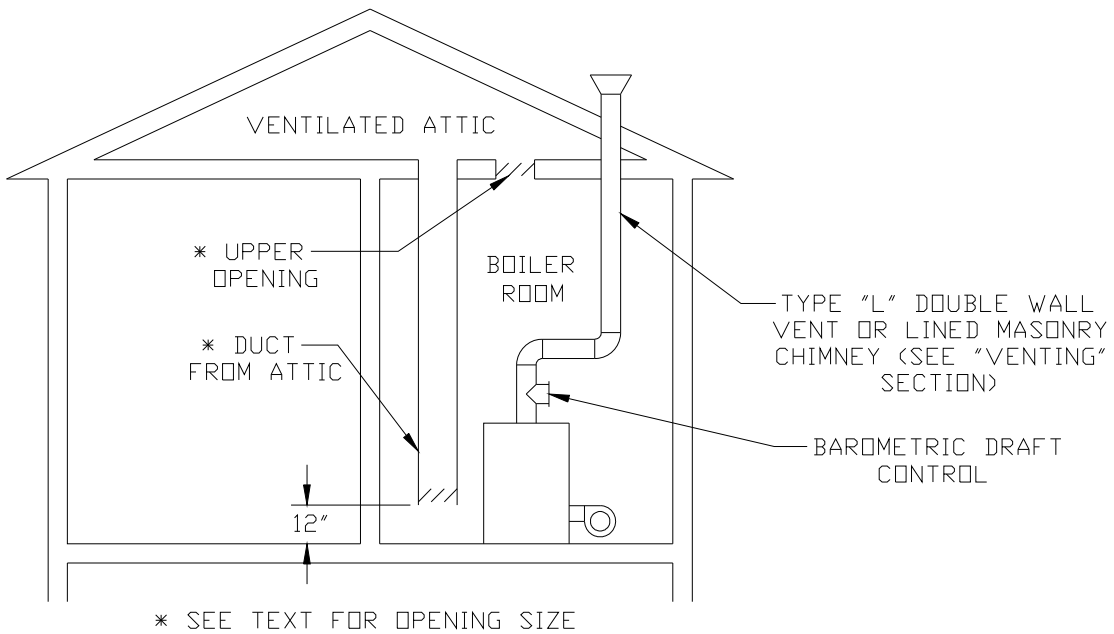
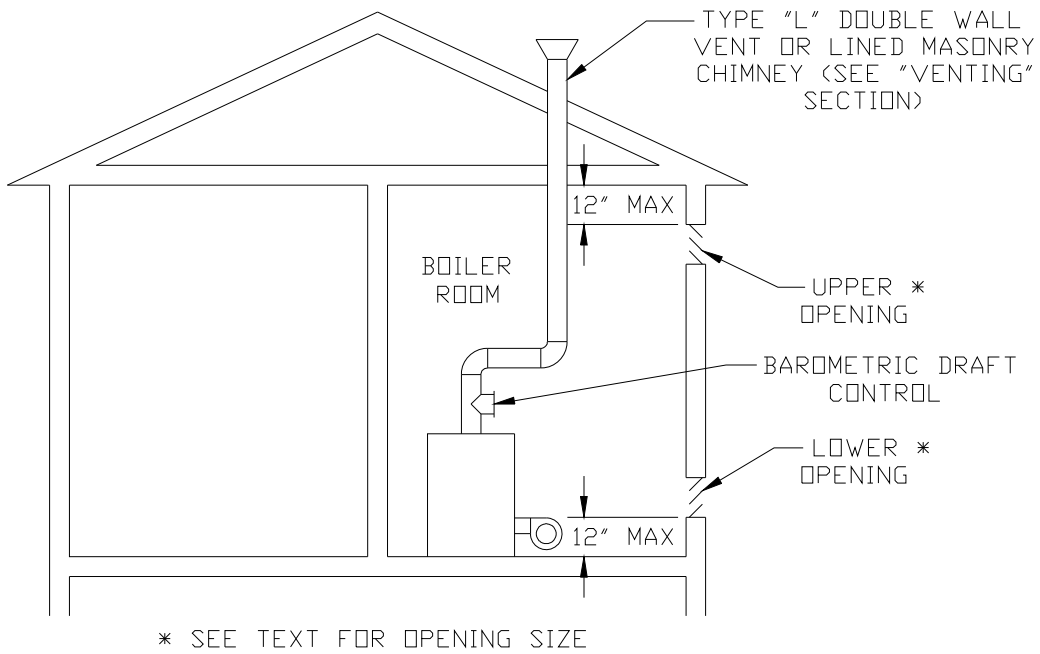

FIGURE 6: ALL AIR FROM OUTDOORS, VIA VENTILATED ATTIC
FIGURE 7: ALL AIR FROM OUTDOORS, USING OPENINGS INTO BOILER ROOM
- Vertical ducts or openings directly outdoors (Figure 5, Figure 6, and Figure 7) - Each opening must have a free cross sectional area of 1 square inch per 4000 BTU/hr of the total input of all fuel fired appliances in the boiler room but not less than 100 square inches. Minimum opening size is 3 inches.